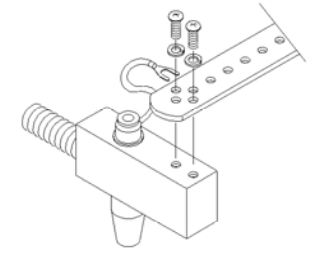

Fig. 3 Mounting for a single nozzle
- Use a bracket "X10S" provided with M5 screws for mounting the nozzle. Then, the grounding lead should be tightened with screws as shown in Fig. 3. The nozzle has two mounting holes with Spinert inserts having M5 thread to a depth of 9 mm on the opposite side of the air outlet. The mounting bracket must be grounded. If grounding is not properly done, there is a risk of electrical shock/fire hazard.